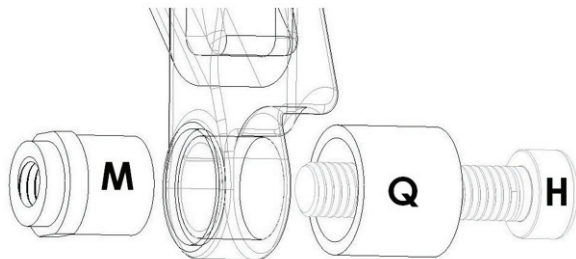

Fig. 4
B) Orient the tools as seen in Fig. 4.
C) As you tighten the bolt the DU Press (M) pushes the DU Bushing into the DU Receiver (Q). Repeat for both Left and Right dropouts.